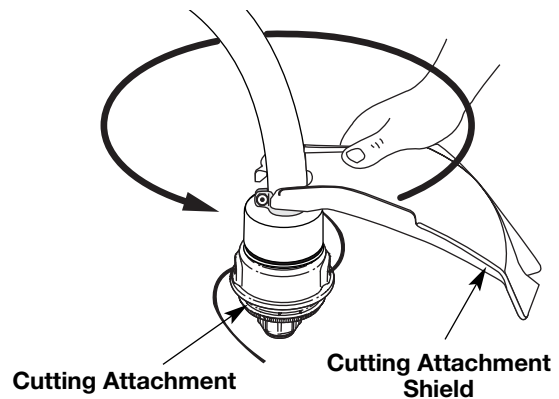

Fig. 4
2. Push the cutting attachment shield down to the top of the cutting attachment assembly. Then rotate the shield until its screw holes line up with the holes in the cutting attachment. The shield guard should fit into the recessed pocket (Fig. 4).